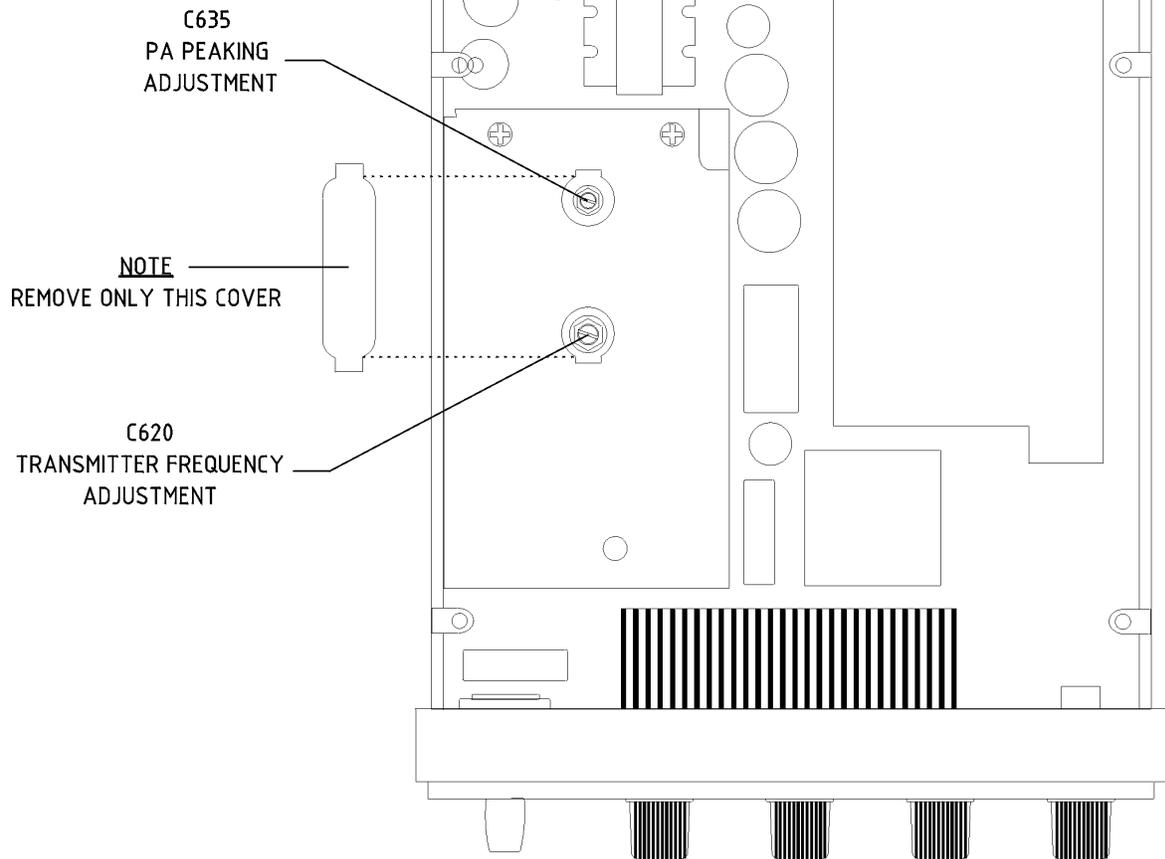

Figure 3-1. C620 and C635 Location
1. Carefully dislodge the thin metal piece that covers the access holes to the transmitter section (figure 3-1) by prying one end with a small, thin screwdriver.
4. Rotate the frequency-adjust slug C620 (figure 3-1) with the screw driver portion of the transmit adjustment tool to a frequency of 1089.5 ± 0.5 MHz. Observe the frequency display on the test set. Tighten the lock nut when finished.